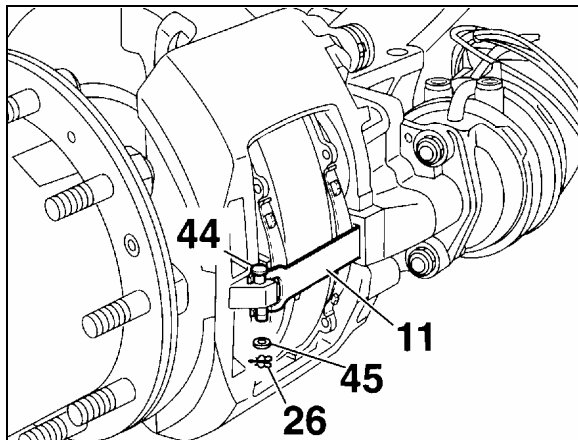

FIGURE 25: CLEARANCE INSPECTION 12119
Remove clip and washer (26 & 45, Fig. 25), push down retainer bar (11), pull out pin (44) and remove retainer bar. Push caliper toward actuator (center of vehicle) for maximum clearance.